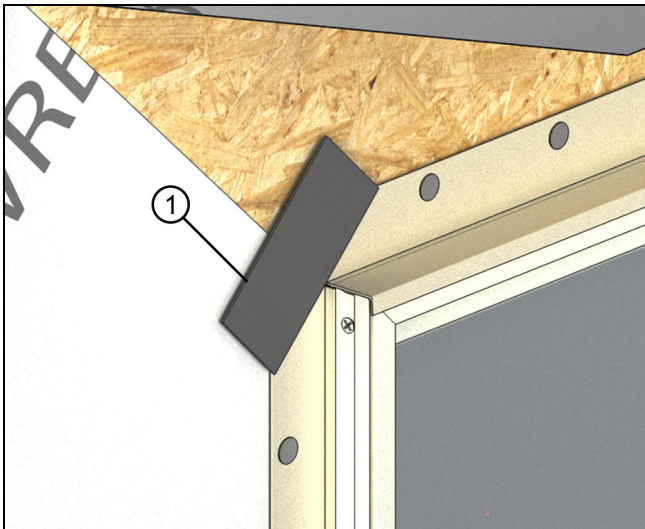

Figure 43
1. On units that use nailing fin, apply a 2" x 4" strip of flashing material at 45 degrees to the corner, bridging the gap between the nailing fin. Do this at all 4 corners. See Figure 43.